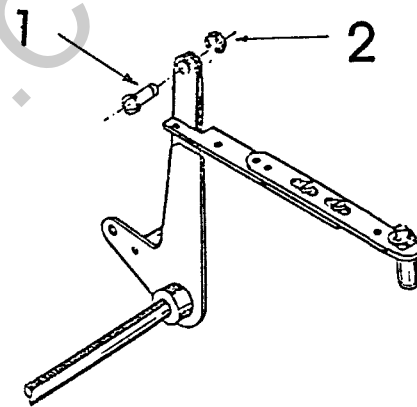

Fig. 3
- Remove retaining ring from connection bolt between traction lever and gear (Fig. 3, Pos. 2).
Remove bolt (Fig. 3, Pos. 1).